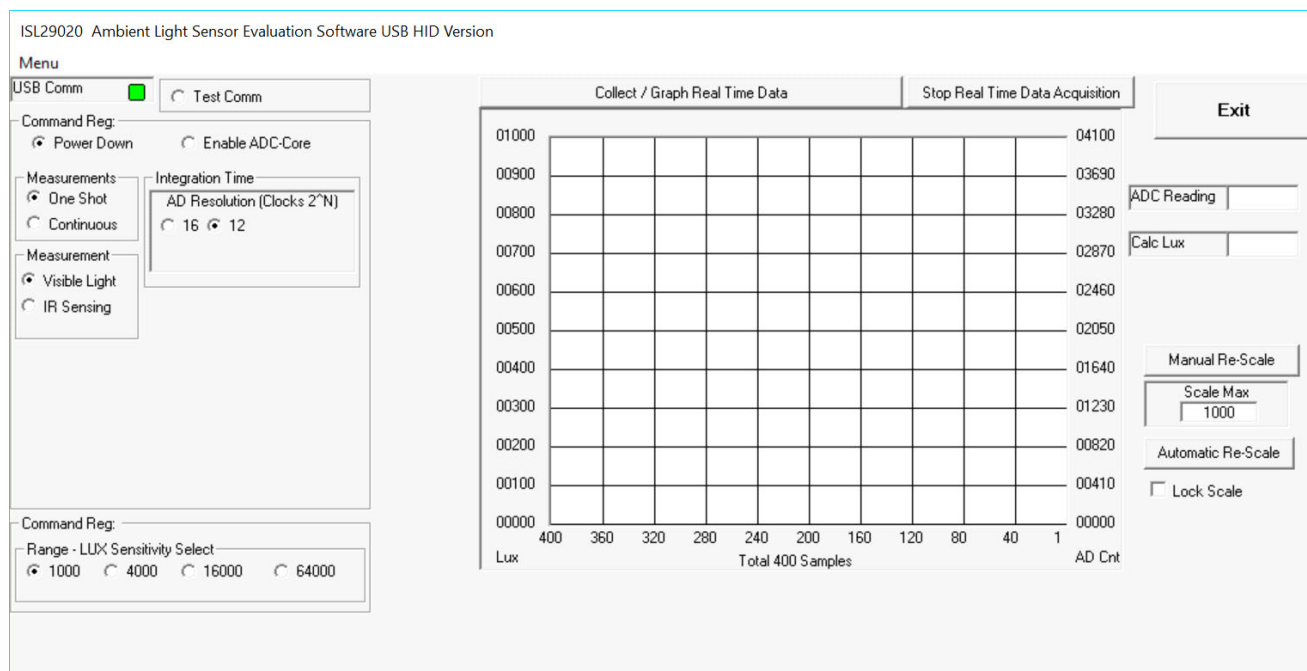

Figure 4. ISL29020 Ambient Light Sensor Evaluation Software USB HID Version
- The window shown in Figure 4 opens. This is the main window where all demonstrations are done.